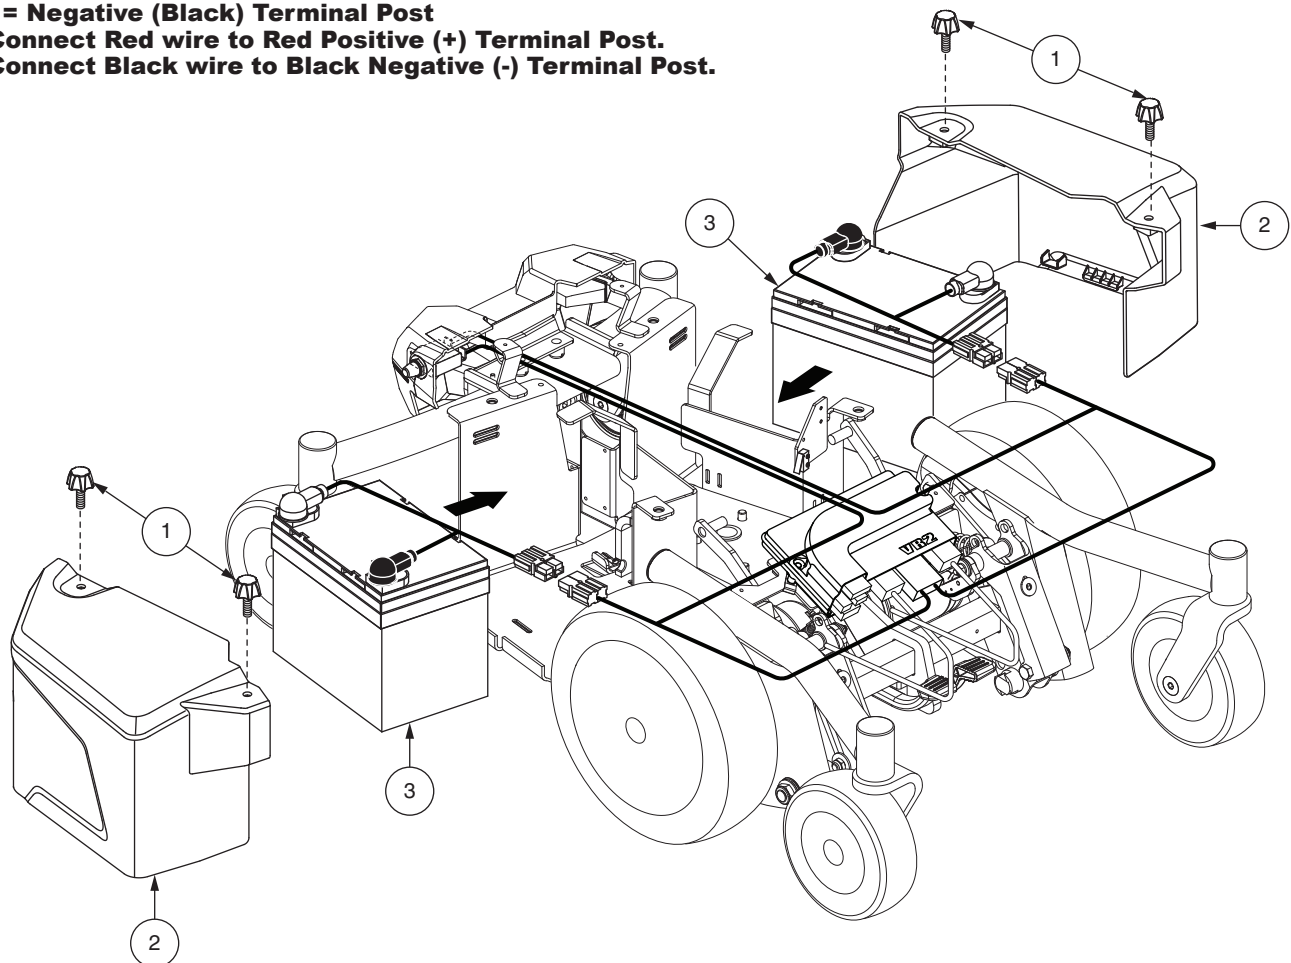

Figure 17. Battery Installation (Seat Removed for Clarity)
4. Loosen the thumbscrews on the sides of the power base and remove the side covers. See figure 17.
5. Disconnect the battery harnesses from the power base. See figure 17.
7. Remove the battery harnesses from the old batteries and install them onto the new batteries. Make sure that the hardware is facing the correct direction. See figure 17.
8. Place the batteries into the power base. Make sure that the terminals are facing the sides of the power base. See figure 17.